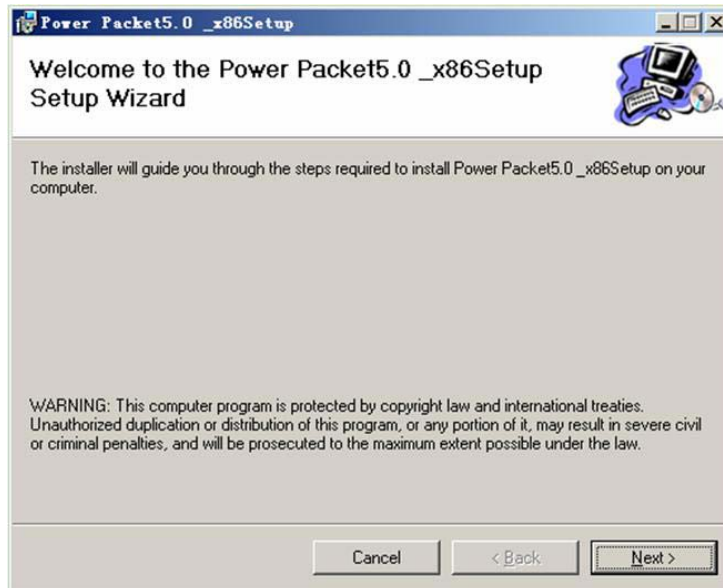

Figure 3 Setup wizard
- Step 3** The installation utility is similar to the window shown in Figure 3. Click **Next** to continue.